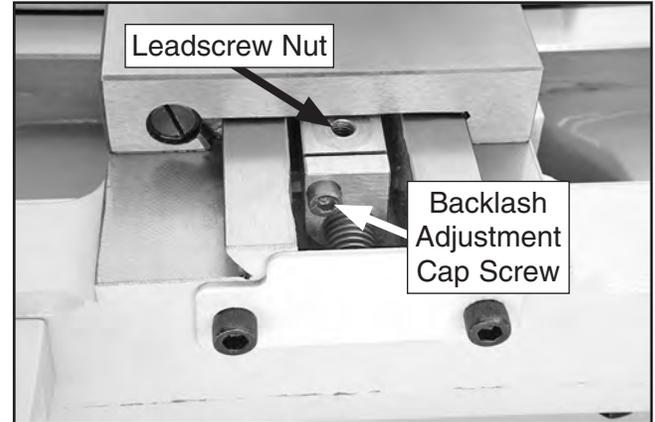

Figure 106. Cross slide leadscrew nut.
3. Rotate cross slide handwheel clockwise to feed leadscrew nut out from under cross slide, as shown in **Figure 106**.
4. Tighten backlash adjustment cap screw shown in **Figure 106** in small increments.